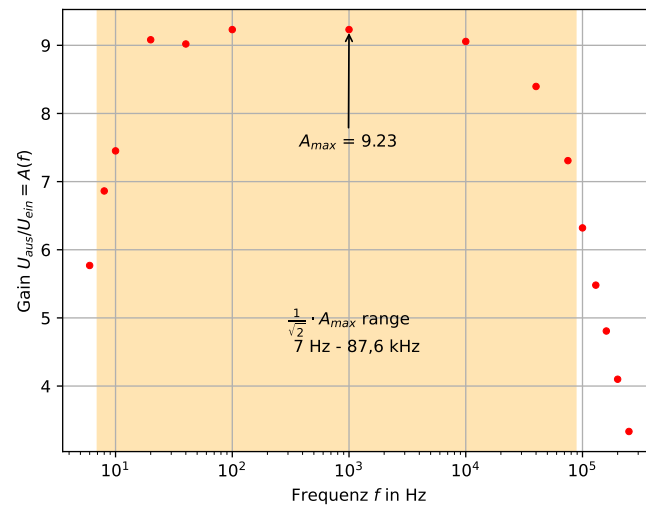

Figure 8: Amplitude response for different frequencies
$$u_{re} = (1 + \beta) i_b R_E \quad \text{see [1, figure 8 and formula (24)]} \quad (10)$$
Another important characteristic of a transistor is the frequency response. Therefore the amplitude and phase response is plotted in figure 8 and 9. Therby the amplitudine response behaves like a high pass filter from 0 - 10^3 Hz and like a low pass filter from 10^3 - 10^6 Hz. The section of frequencies, where $|A| \geq \frac{1}{\sqrt{2}} \cdot |A_{max}|$ is also shown in figure 8